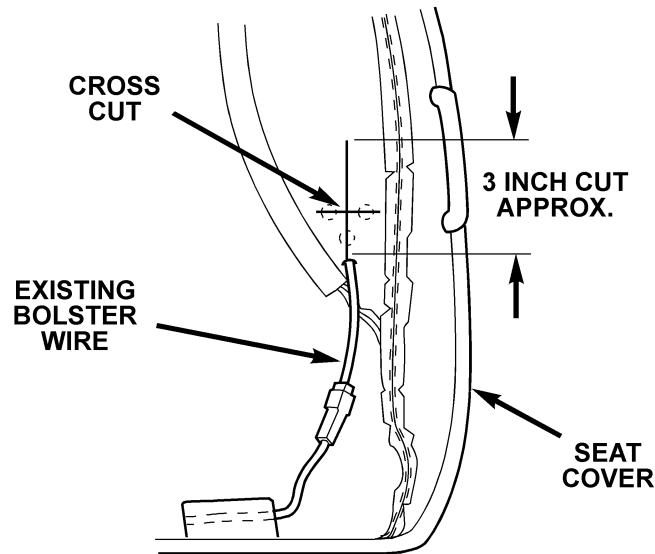

Figure 2
8. Trace the wires into the foam and carefully slit the foam using a sharp knife, following the wires until the heating element solder joint is located (See Figure 2). This is the location the open circuit is usually found. Cut the harness from the element as close to the solder joint as possible. If the seat cover has a gray lining, it may be necessary to trim some of the fabric around the glue until the element is exposed. Remove all loose debris. It is not necessary to remove the glue from the cover. **Do not discard the original harness. Some vehicles will require the use of the original two wire connector later.**